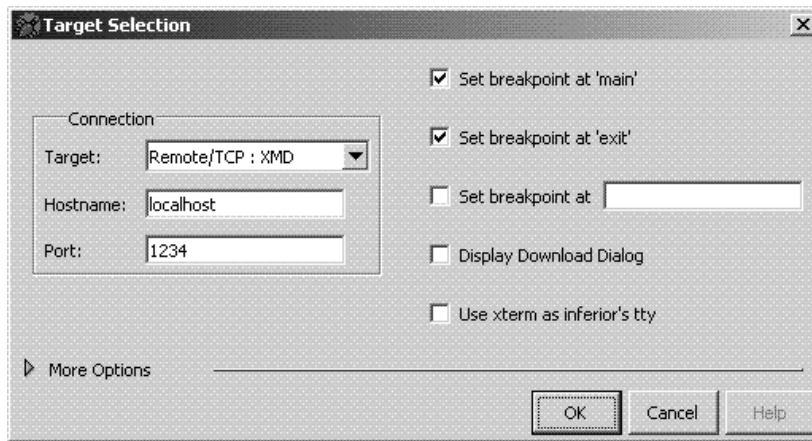

Figure 32: GDB Target Selection
- In GDB, select **File** → **Target Settings** to display the Target Selection dialog box as shown in Figure 32